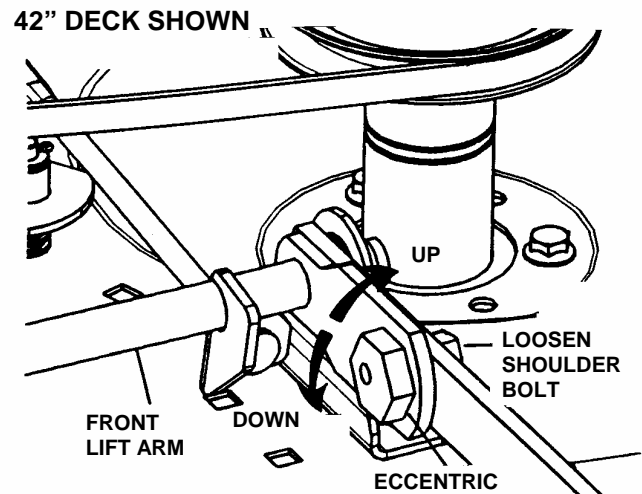

FIGURE 4.7
- g. Turn eccentric "UP" or "DOWN" as required until blade tips are within $1/8"$ of the same distance from the floor. See Figure 4.7.